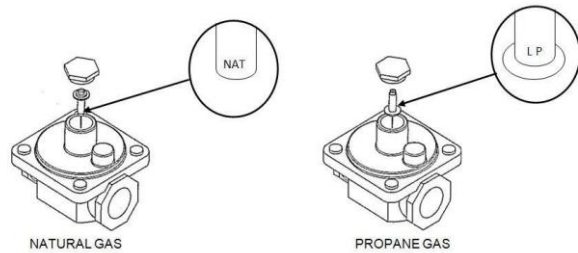

Fig. 3
4. Set the regulator by inverting the regulator spring plug (Fig. 3).